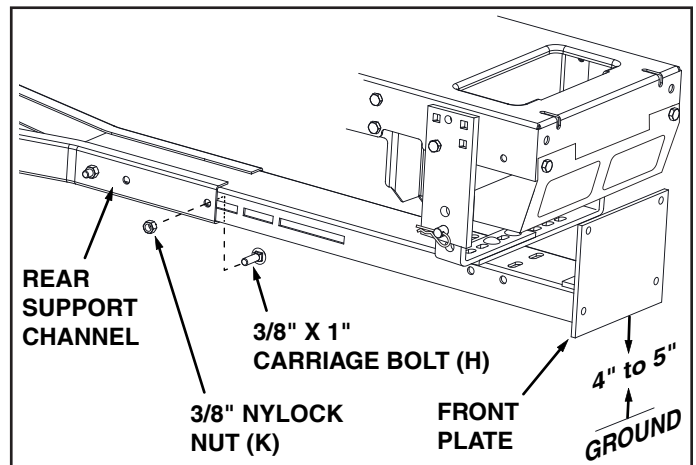

FIGURE 12 - SEARS TRACTOR SHOWN
STEP 12: (SEE FIGURE 12)
- Place the rear of the Thrust Channel between the two Rear Support Channels. Install four 3/8" x 1" carriage bolts (H) and 3/8" nylock nuts (K) using the most widely spaced holes that are aligned with slots. **Finger tighten only.**